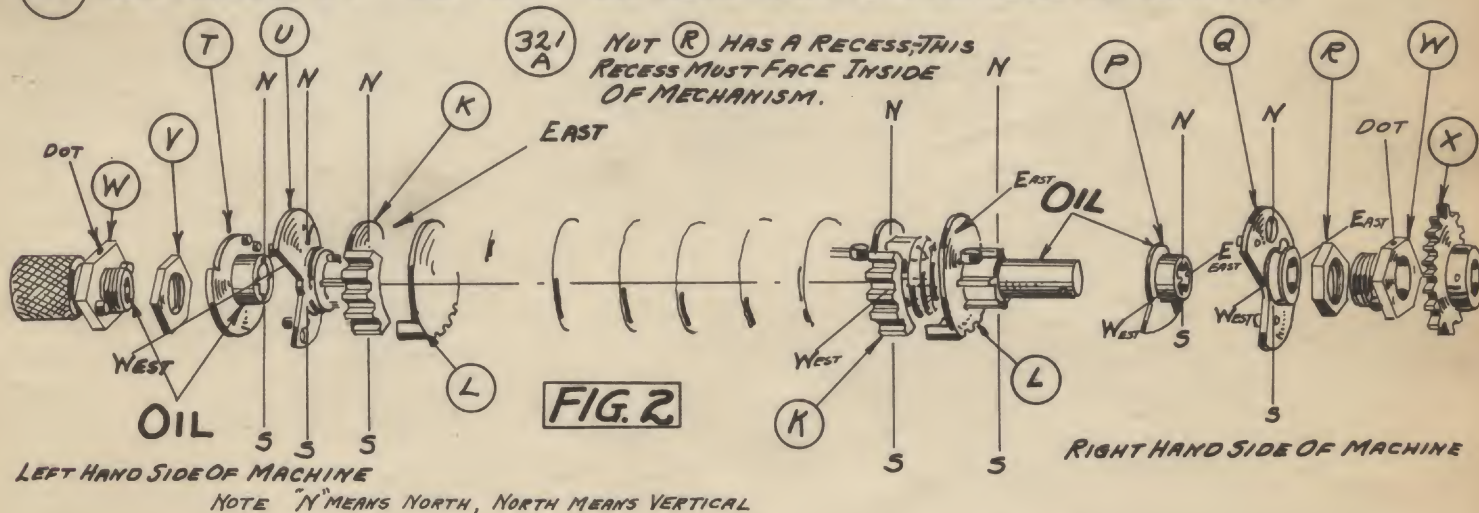

FIG. 2
- 322 IT IS ASSUMED IN THIS CASE THAT SELECTING GEARS (K) AND (L) HAVE NOT BEEN DISTURBED, IN THAT CASE THE SELECTING GEARS ARE IN THE RELATION SHOWN IN FIG. 2. ASSEMBLE PART (P) - PAYING STRICT ATTENTION TO "NORTH-EAST-SOUTH AND WEST" AND FOLLOW WITH (Q) - PUT ON NUT (R).
- PLACE PARTS (T) AND (U) WITH STRICT ATTENTION TO "NORTH-EAST-SOUTH-WEST" AND PUT NUT (V) ON SHAFT.
- 324 PLACE THE UNIT INTO FRAME, PLACE BEARINGS (W) ONTO SHAFT, WITH DOT ON TOP, TIGHTEN NUTS (V) AND (R) AND ASSEMBLE GEAR (X) WITH TAPER PIN PROPERLY PLACED.